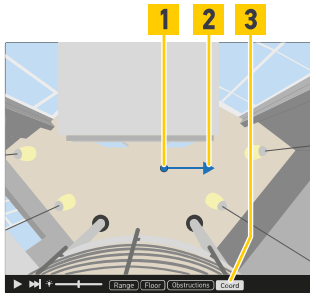

Fig. 87: Live view with coordinate system
- To see the position and direction of the x-axis click the Coord button (Fig. 87 /3).
- Place the blue dot (Fig. 87 /1) at floor level (drag and drop) to a known position of your coordinate system - or to the center of the default coordinate system.
- Rotate (drag and drop) the shown positiv x-axis arrow (Fig. 87 /2).